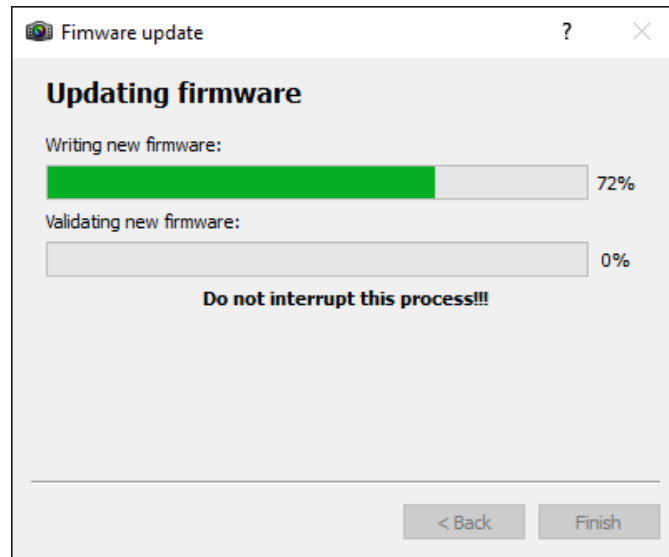

Figure 29 : Firmware Update process window
4. The next window displays the initiated firmware update. The firmware update process displayed in the first progress bar and the firmware validation displayed in the second, as shown in Figure 29.